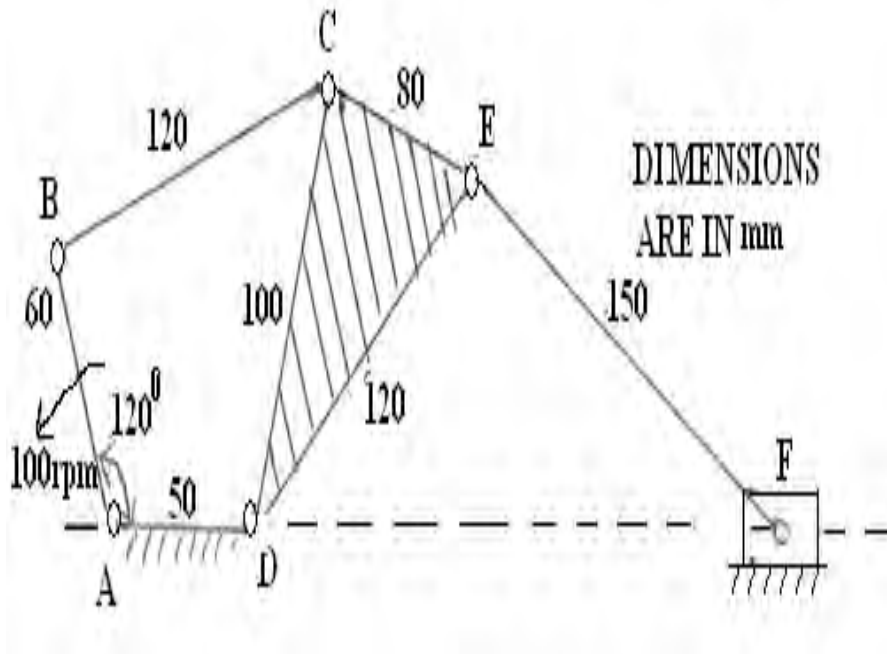

Figure 5
5. Find the velocities of points B, C, and D of the double-slider mechanism shown in the figure 5 if crank 2 rotates at 42 rad/s cw. Use instant centre method. [16]